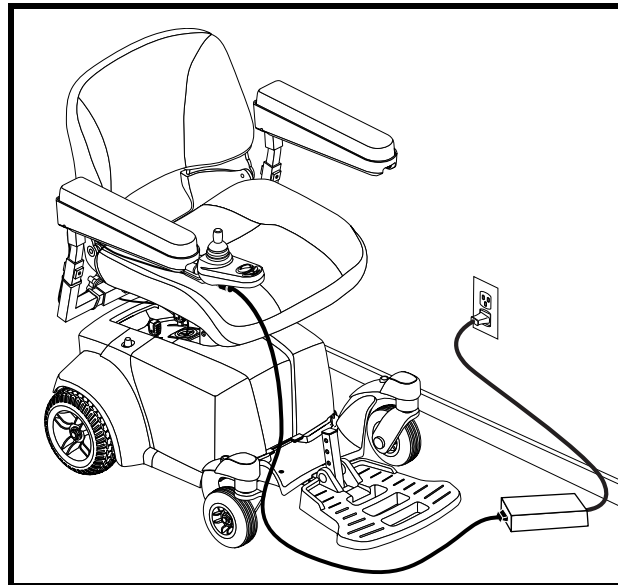

Figure 15. Battery Charging
3. Plug the off-board charger into the off-board charger/programming socket on the controller. **See figure 15.**